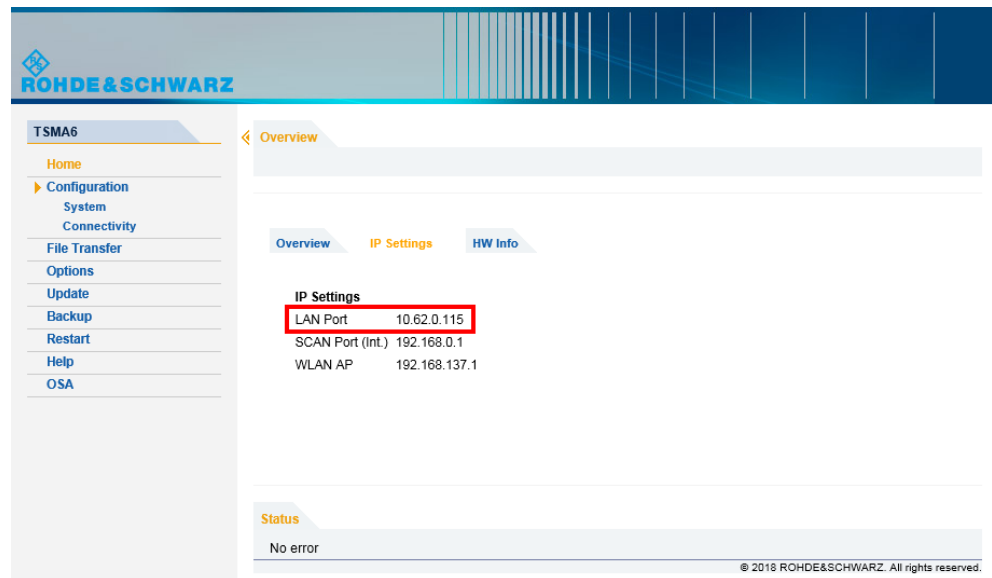

Figure 8-6: web GUI - Overview > IP Settings
See Figure 8-6.
1. Use the IP address displayed in the R&S TSMa6 web GUI (see Figure 8-6).